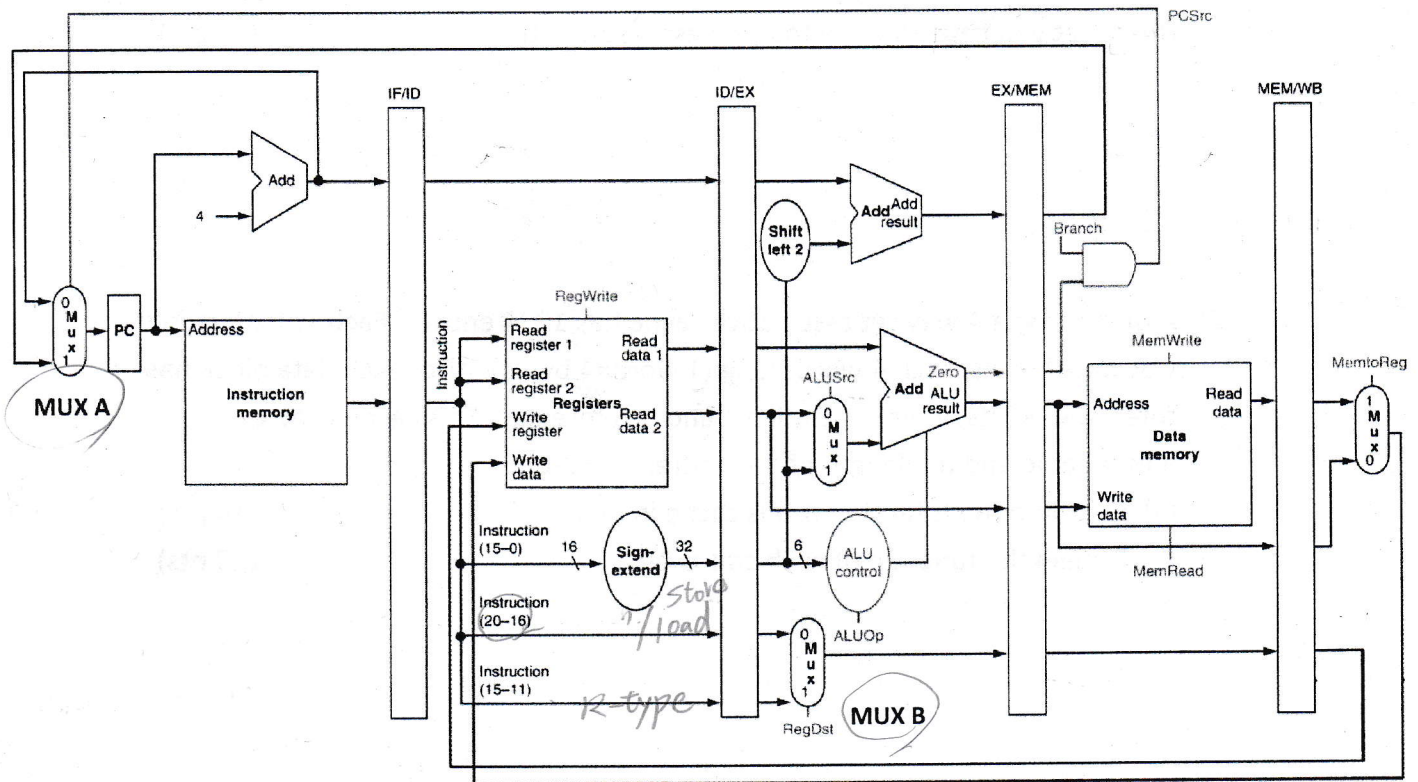

Fig. 1
3. Fig. 1 shows the pipelined datapath of the MIPS processor. There is a code sequence:
- (b) If we implement the data forwarding path in Fig. 1, how many stall cycles will this code sequence have? (10 pts)
4. Check the multiplexers "MUX A" and "MUX B" in Fig 1, and answer the following questions. (40 pts, 5 pts each)
- At the first stage (IF), why we need "MUX A" before the PC register?
- Can we move "MUX B" to the second stage (ID) such that it can work earlier?
- Take a code sequence for example to explain why the datapath of Fig. 1 will cause control hazards.
- The method "Predict-Taken" has been considered a better way to reduce control hazards. Explain how to implement the "Predict-Taken" path in Fig. 1.